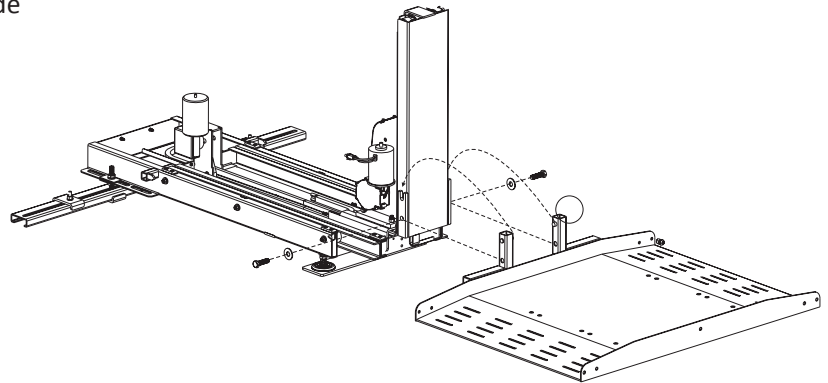

Figure 4-17
12. Thread ½-13 x 1-¾" L Hex head Bolts and ½" washers into threaded holes as shown. Test full motion of lift into and out of the vehicle. Be sure lift is level and no obstructions interfere with platform travel. **See Figure 4-17.**